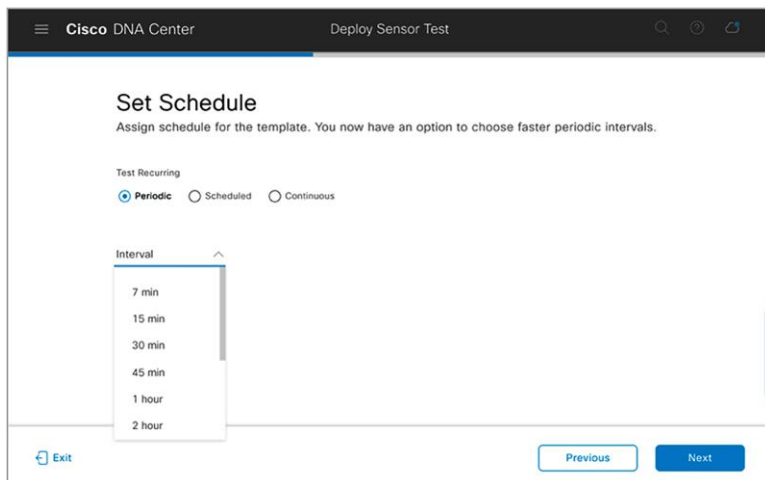

Figure 87.
- Select a sensor test interval to determine the frequency with which the sensor runs the test, then click **Next** (**Figure 87**).